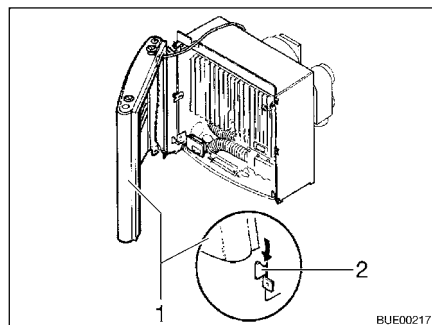

Fig. 74 Heater cover, retaining clips
- Mount the heater cover. To do this, place the cover (Fig. 74,1) on the lower retaining clips (Fig. 74,2).